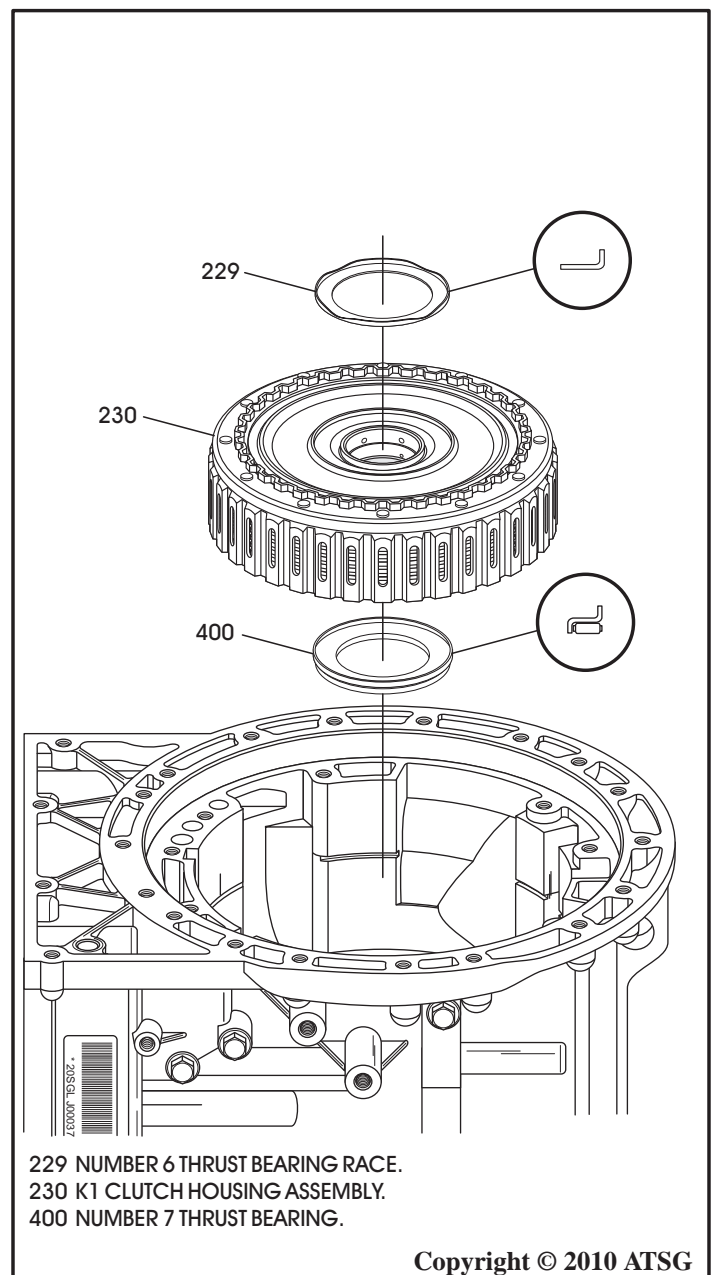

Figure 213
28. Ensure the number 7 thrust bearing is still stuck to the back side of K1 clutch housing, as shown in Figure 213.
29. Install completed K1 clutch housing, as shown in Figure 213, by rotating back and forth so the friction plates engage the clutch hub.
30. Install the number 6 thrust bearing race into the pocket on top of K1 clutch housing, as shown in Figure 213.